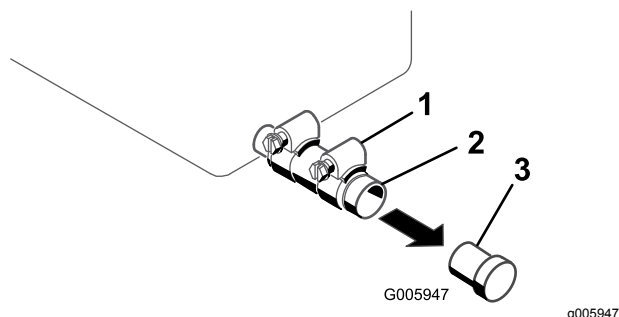

Figure 30
4. Place a pan under the oil-drain tube (Figure 30).
5. Loosen the clamp and remove the plug (Figure 30).